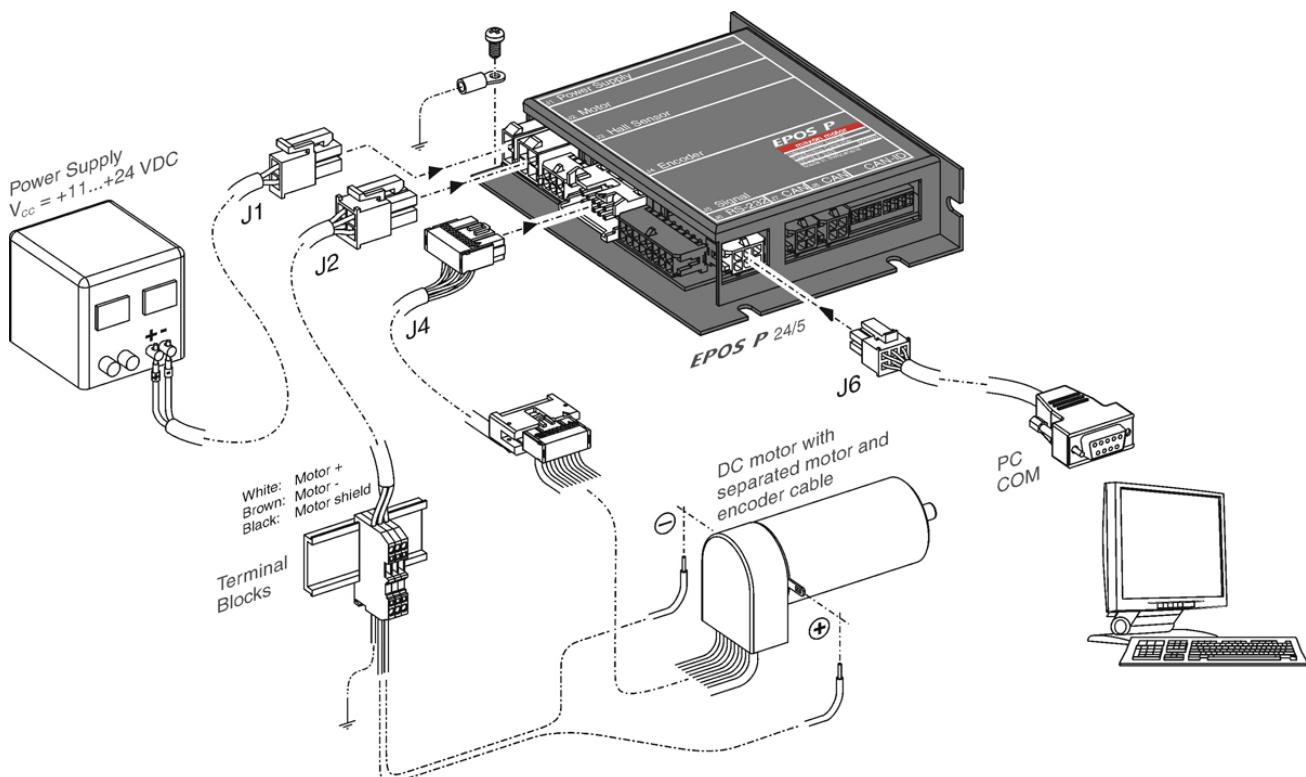

Figure 3-5 Minimum Wiring: maxon DC motor with separated motor/encoder cable
- 2) Connect maxon cable assemblies (→Table 3-5 and Figure 3-5).